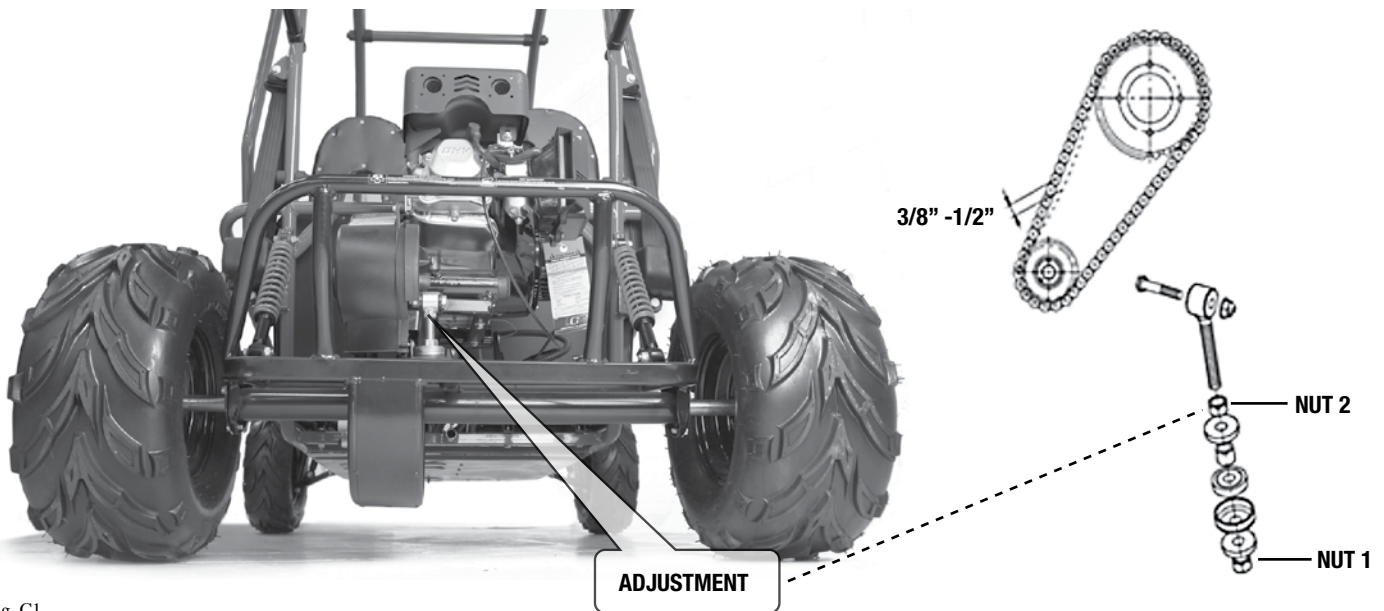

fig. C1
C. Chain Lubrication and Adjustment (see fig. C1)